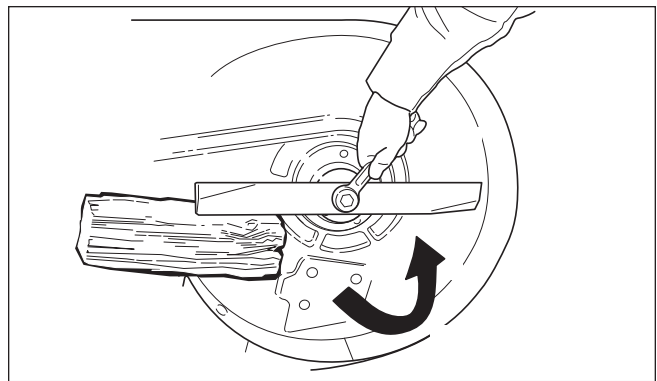

Figure 8. Loosening the Mower Blade for Removal
2. To remove the mower blade, use the appropriate tools to remove the mower blade mount bolt (Figure 8).